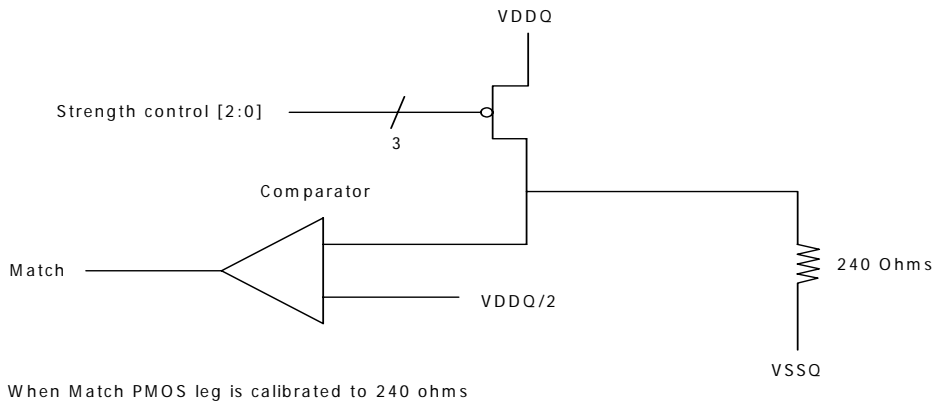

Figure 42: PMOS Calibration
- 1.) First calibrate the PMOS device against a 240 Ohm resistor to VSS via the ZQ pin as illustrated in Figure 42.